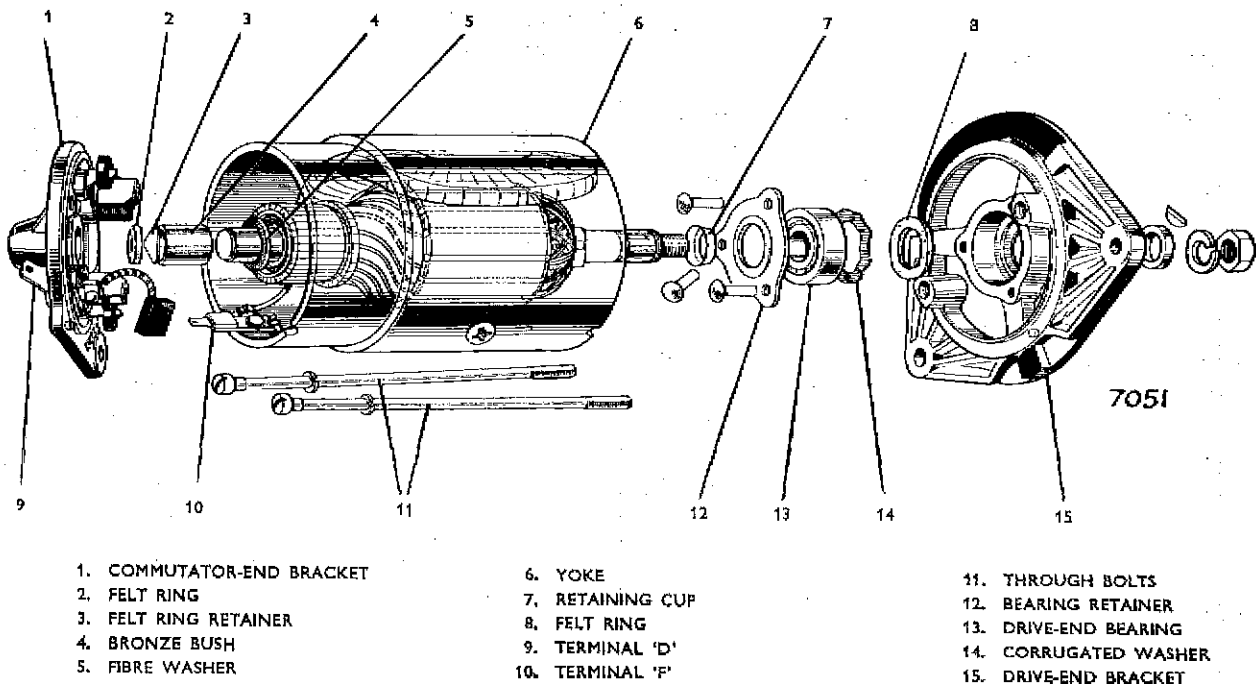

Fig. 3. Exploded view of generator
To dismantle (See Fig. 3)
1. Drill out the rivets which secure the bearing retaining plate to the end bracket, and remove the plate (See Fig. 3).